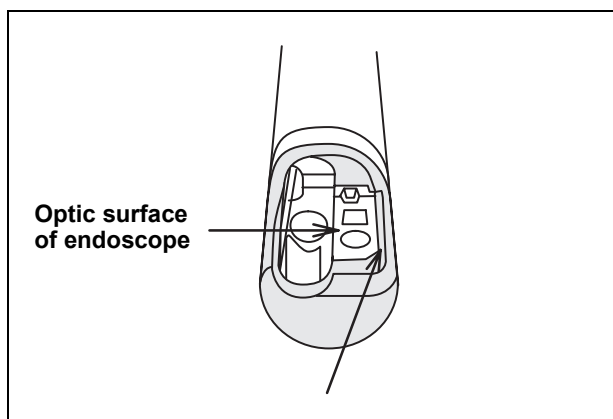

Figure 3.20
7. Confirm that the part of the distal cover indicated by an arrow and the optic surface of the endoscope are aligned as shown in Figure 3.20.